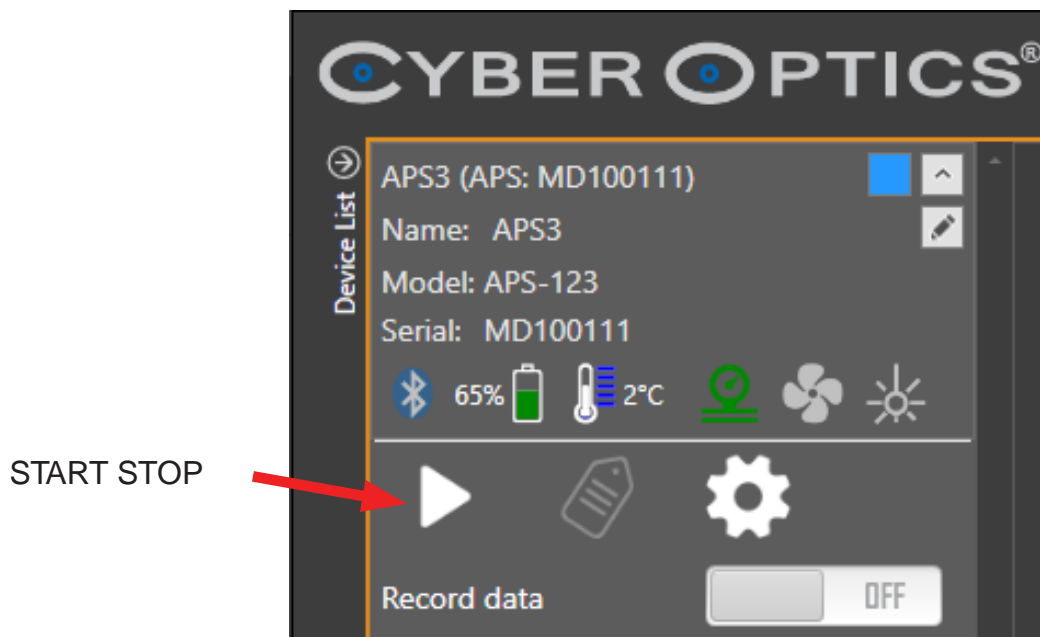

Figure 3.2: Making a Simple Measurement Run
4. Click **START** to start the measurement run in the **Device Controls** (see Figure 3.2).